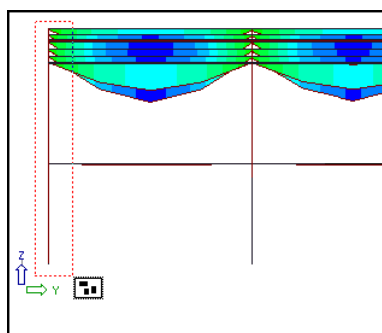

Figure 185: Selecting the first portal frame of the structure
1. Select the first portal frame as shown in Figure 185.